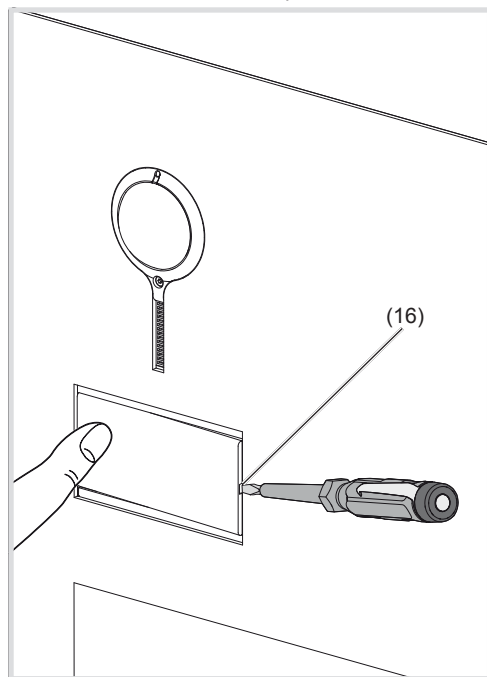

Figure 3: Removing name plate cover
- Position the screwdriver in the lever opening (16) and release the interlock (Figure 3).